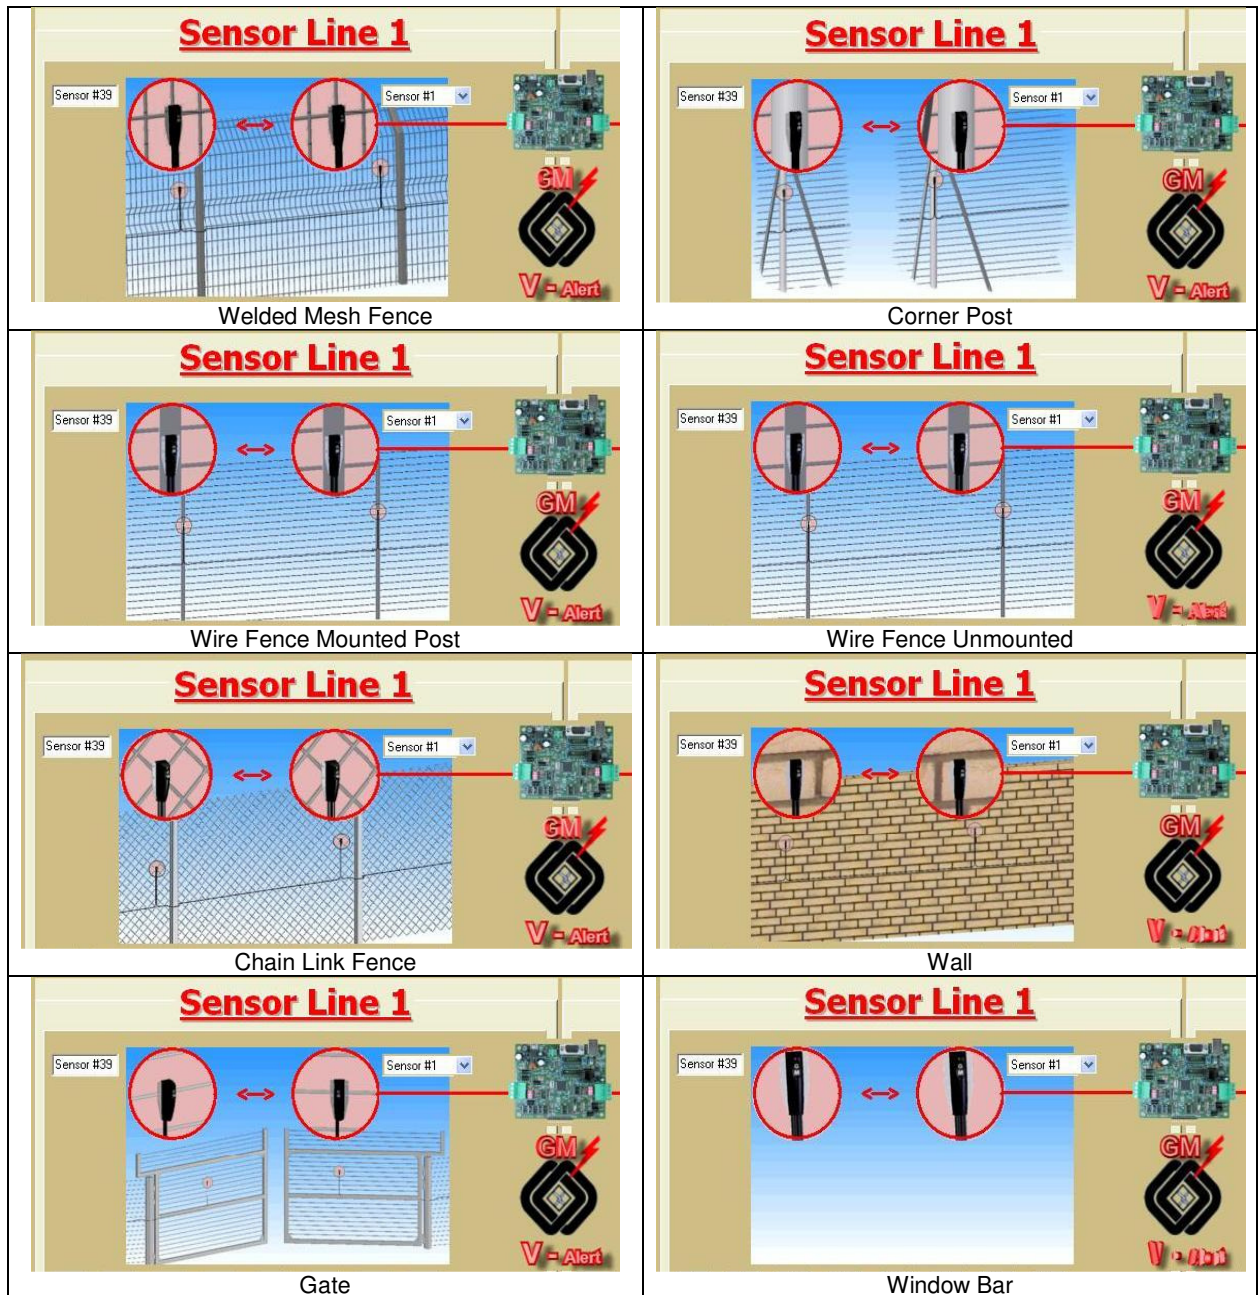

Figure 7: Different Barriers as depicted in the Set-Up Application
6.11. The diagram of the different barriers from the various INSTALLED ON options changes according to the type of barrier chosen. This is shown in Figure 7 below: